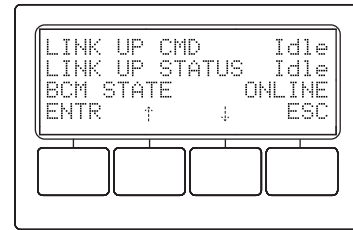

Fig. 5-25, Smart Display - Link-Up Command
2. When the **LINK UP CMD** line is highest on the LCD (Fig. 5-25), press the **ENTR** softkey to make a change. Use the up or down arrow softkeys to change the value on the right to "Start." (Fig. 5-26) Press the **ENTR** softkey.